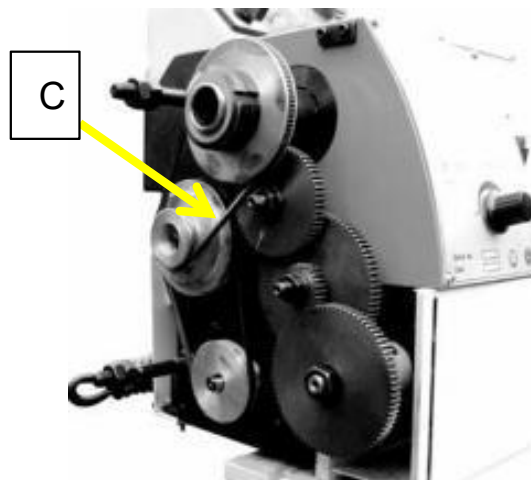

Fig. 16
2. Adjust the V-belt(C, Fig.16) corresponding position.